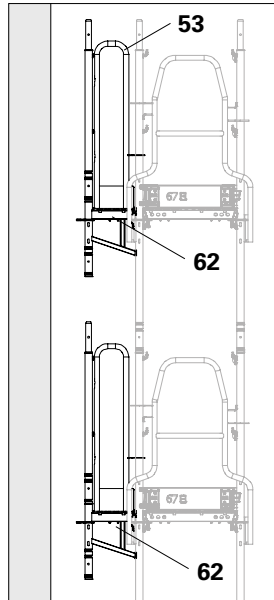

Fig. D1.02
1. Fit Console Bracket ECM 33 (**62**) onto the edge frame column with pre-assembled Guardrail Post EVP (**50**). (Fig. D1.02 + D1.02a)
4. Fit the End Guardrail EPF (**53**). (Fig. D1.02)